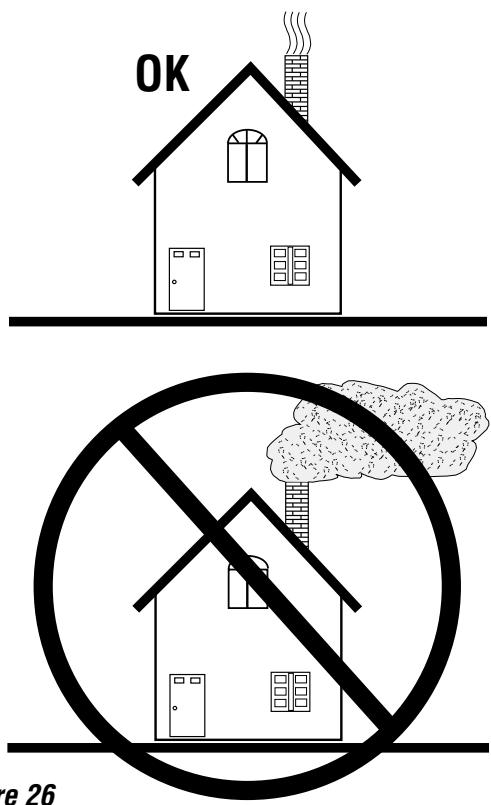

Figure 26
- For best results, use smaller pieces of wood to get the stove temperature very high before loading larger wood for sustained burns. If necessary, crack the door to allow ignition of the fuel charge. Now you can add larger pieces of wood and after several minutes of high burn, set the left control for the desired heat output. Check the exhaust in about 15 to 20 minutes (see **Figure 26**). Large amounts of smoke indicate an improper burn setting (either too high or too low). Adjust and recheck in 5 to 10 minutes.